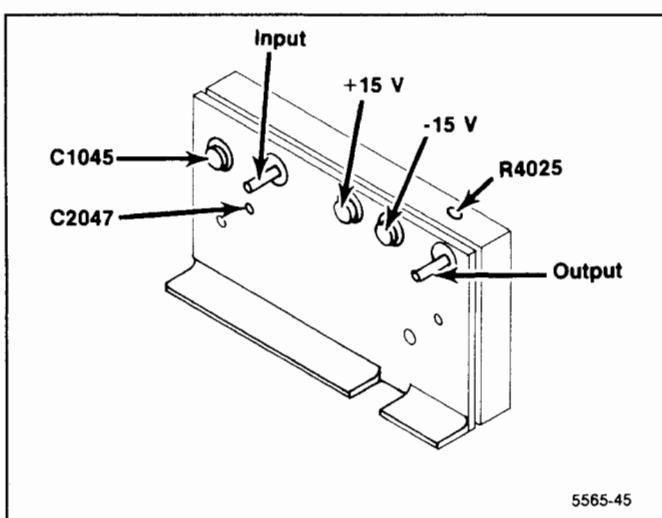

Figure 6-10. 110 MHz IF test points and adjustments.
6. Adjust C2047 and C1054 (Figure 6-10) simultaneously for minimum signal amplitude on the spectrum analyzer display. Minimum amplitude must be at least 35 dB down from the full screen reference of -20 dBm.